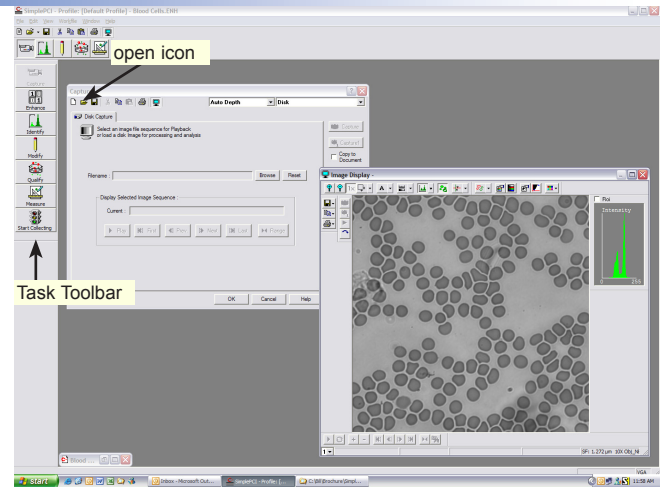

fig.19
2. Click the camera icon to activate the **Capture** window and the **Image Display** (fig.19)
3. Select **Disk** from the top-right drop-down menu. Click the **Open** icon in the **Capture** window. Locate **Blood Cells.tif** in the example CD. **Examples/Images/Blood Cells.tif > Open**. The image will appear in the **Image Display** (fig.19).